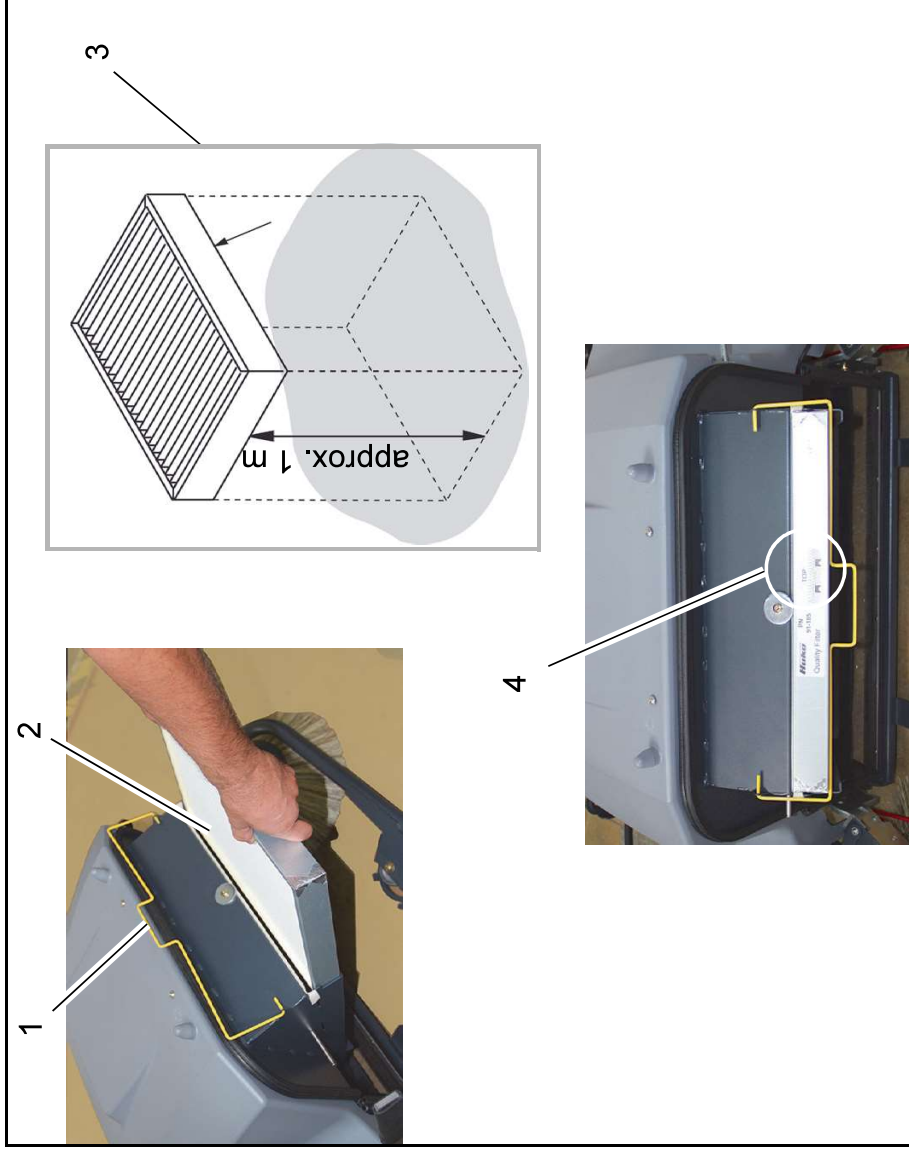

Fig. 7
2. Swivel the yellow handle (Fig. 7/1) upwards and pull the filter (Fig. 7/2) out of the frame.
The dirty side must be facing the floor (Fig. 7/3)!
Ensure that the installation position is correct! Markings (Fig. 7/4) can be found on the frame of the filter.